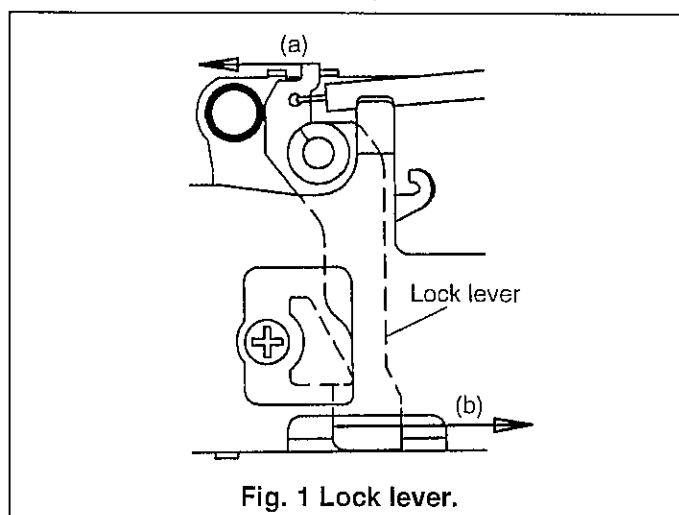

Fig. 1 Lock lever.
- (1) Remove the cassette control cover.
- (2) Press the EJECT lever of the VCR frame to raise the cassette control. Or, in STANDBY mode, push the lock lever in the direction of the arrow to raise the cassette control. (See Fig. 1; direction (a) or direction (b).)